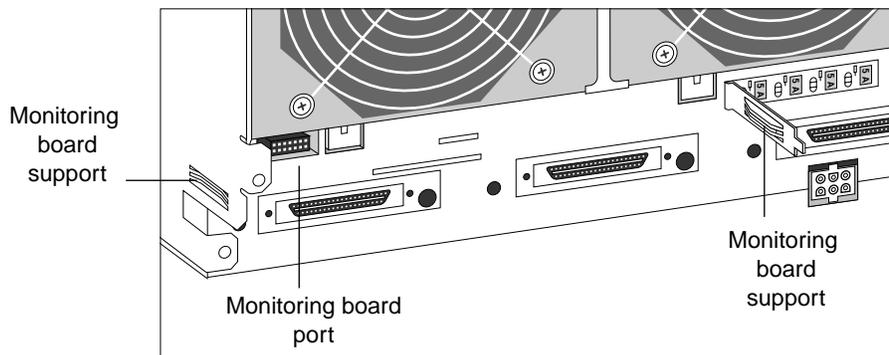

Figure 45. HDDA monitoring board location
4. Slide the cover plate down the power harness to gain access to the monitoring board port. The monitoring board port is on the left-most side of the HDDA chassis when viewed from the back (Figure 45).